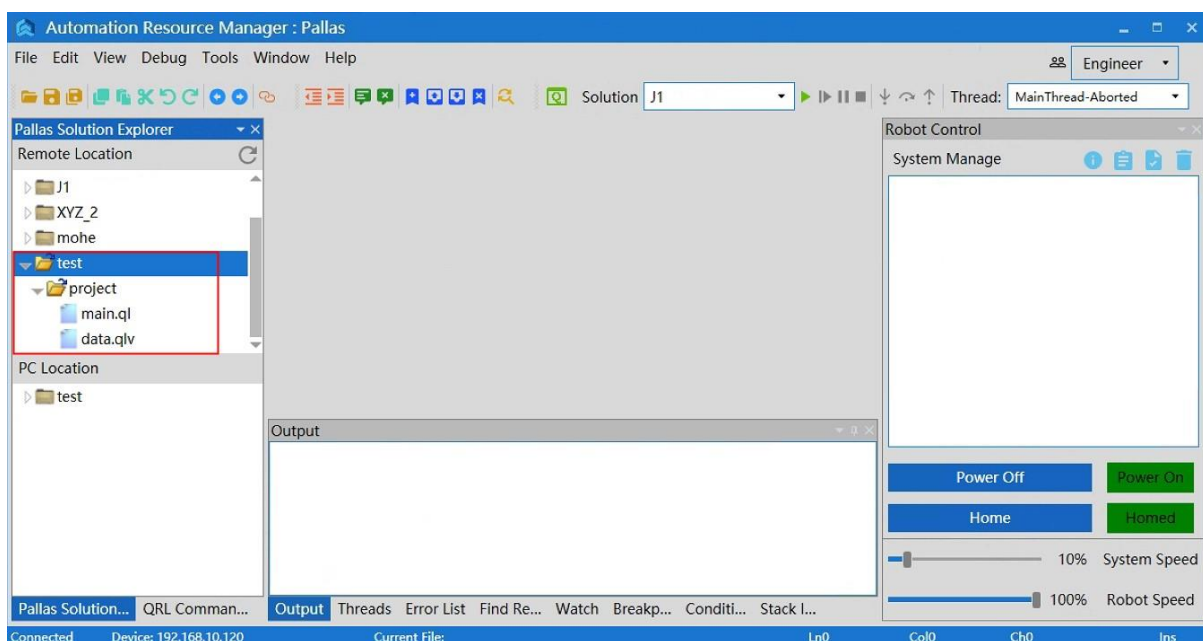

Figure 6-29 "New Solution" file interface
Step 3 After the creation is completed, the corresponding solution file will appear below "Remote Location". Expand the "test" file, and then the "project" file, which contains the "main.ql" and "data.qlv" program files, as shown in Figure 6-29.